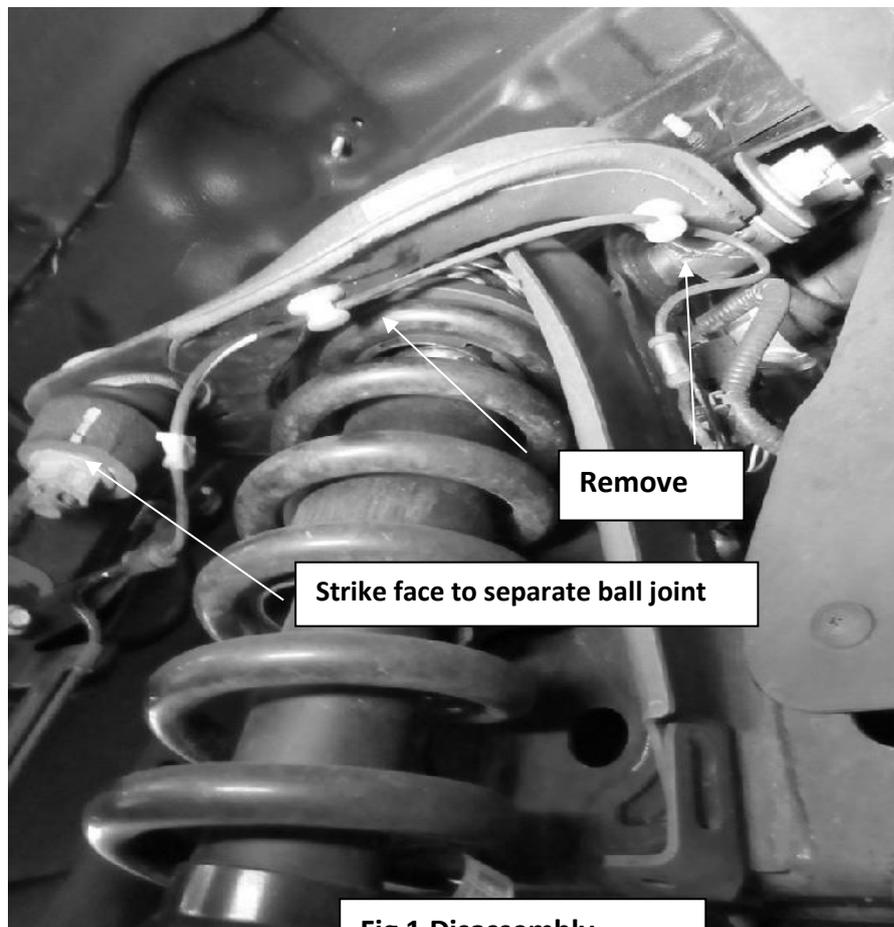

Fig 1 Disassembly
5. Break ball joint taper from spindle and support spindle so there is no strain on the ABS wiring and brake lines see **Fig 1**